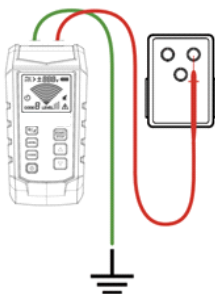

Figure 10.1.1a Correct Connection of Independent Grounding
2. Connect the outlet convertor to the outlet, and connect the red test lead to the energized live wire (at the load side of the system). Signal is generated only between the power supply and the load side connected with the transmitter, as shown in Figure 10.1.1a.